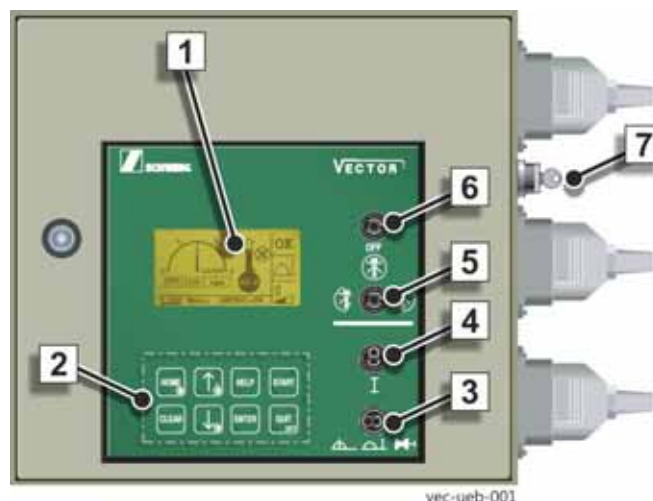

Fig. 162 VECTOR switch cabinet
The display (1) (**Fig. 162**) of the VECTOR control system shows an appropriate error message.